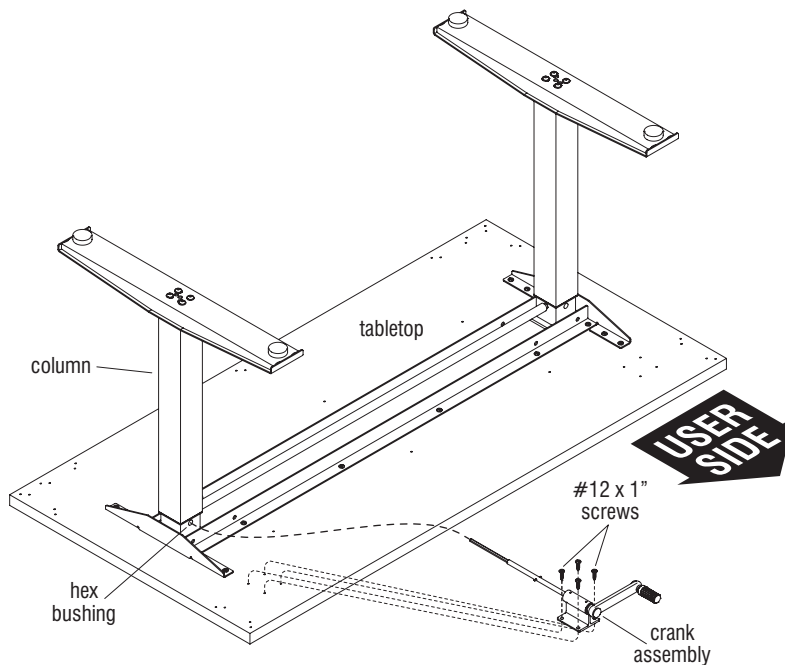

Figure 4
1. Slide the hex rod of the Crank Assembly into the hex bushing on one of the columns (Figure 4).
2. Attach the Crank assembly using four #12 x 1" tapping screws (Figure 4).